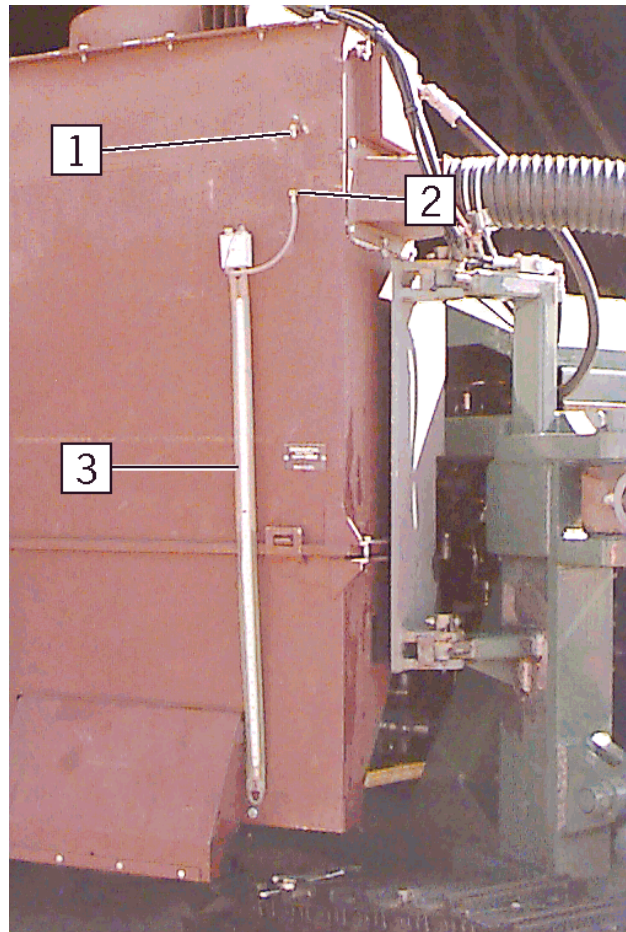

Fig. 7-13 Manometer Installation - for fan speed test
1. Make sure both ends of tubing are open to atmosphere. Connect one end of manometer ("X") to lower test port (fig. 7-13) on dust collector, leave other end ("Y") free for reading fan speed. Connect both ends of manometer to upper and lower test ports to read pressure drop across filters.
2. Mount manometer to dust collector as shown in fig. 7-13.